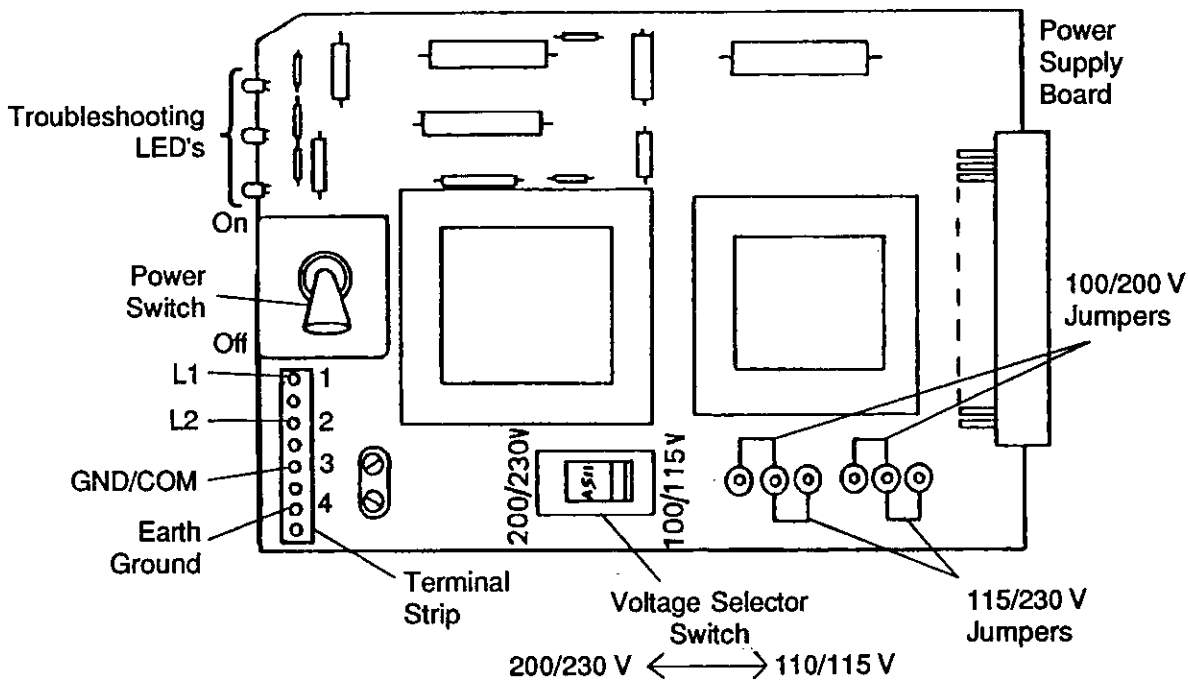

Figure 7. AC Line Connections
1. AC input power lines are connected to screw terminals at the front of the power supply board, Figure 7.
3. Fiber Optic PulseTrack systems are shipped with the voltage selector switch (Figure 7) in the 230 volt position for circuit protection. Select the proper voltage for your installation with the voltage selector switch as follows: